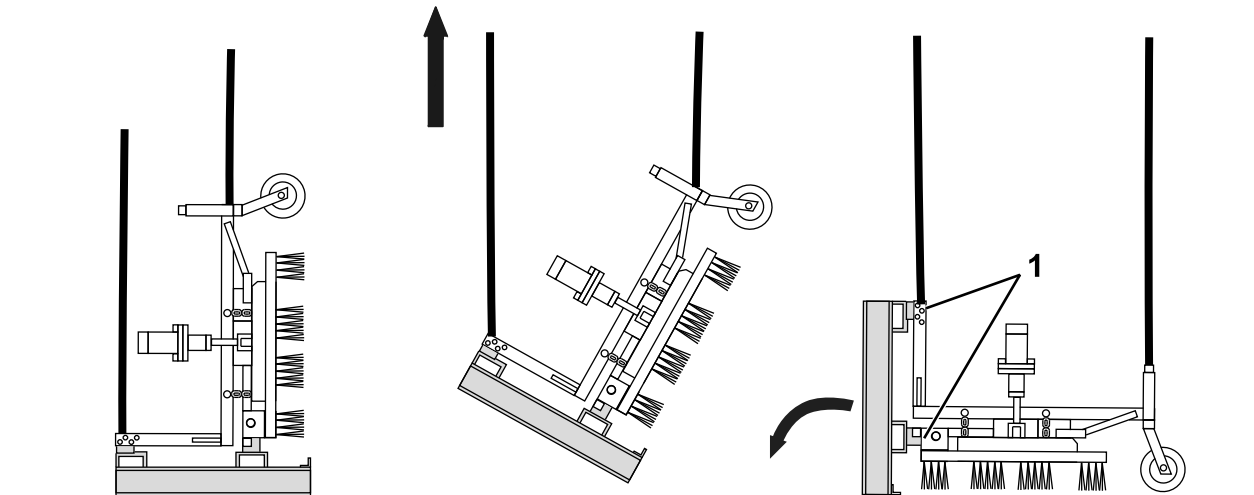

Figure 3
4. Gently lower the attachment in a controlled way as shown in Figure 3 until it is on the ground.